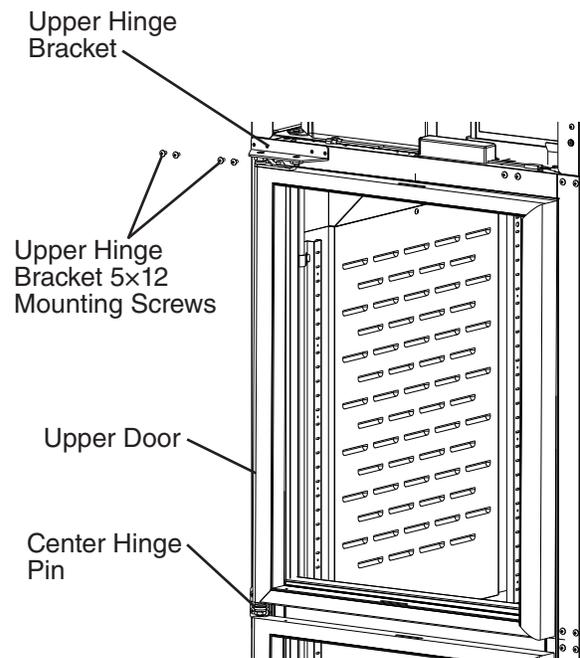

Fig. 66
- 19) While supporting the upper door and upper hinge bracket, place the upper door onto the upper center hinge pin on the center hinge bracket in the closed position, then secure the upper hinge bracket to the cabinet. See Fig. 66. **NOTICE! Be sure to reuse the bracket screws for mounting the bracket as the bracket screws are 5×12 and filler screws are 5×10.**